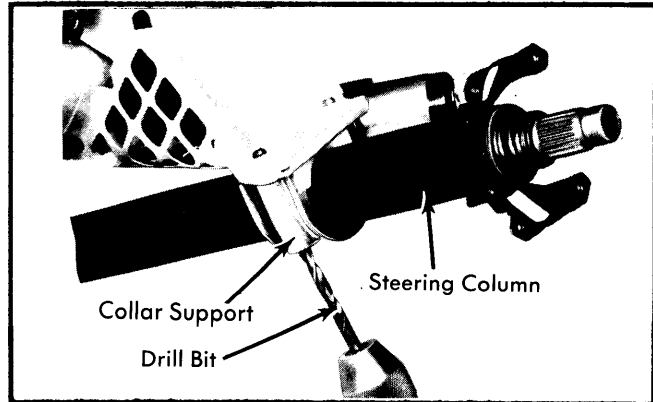

Fig. 1 Drilling Out Shear Bolts and Dropping Column Mounting Collar
3) Remove upper instrument panel trim to make shear screws accessible. **NOTE** - These screws are also upper steering column support screws. Drill off heads of shear screws. Remove steering lock and allow to hang by wiring. Remove steering column (Fig. 1).